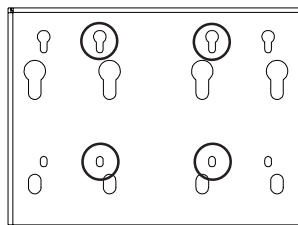

fig. 4.1
Find the VESA® hole pattern as shown in figures 4.1 and 4.2, and attach screen to mounting plate as specified below. Verify that all holes are properly aligned, and then tighten screws. If using security screws, tighten using security allen wrench (M).